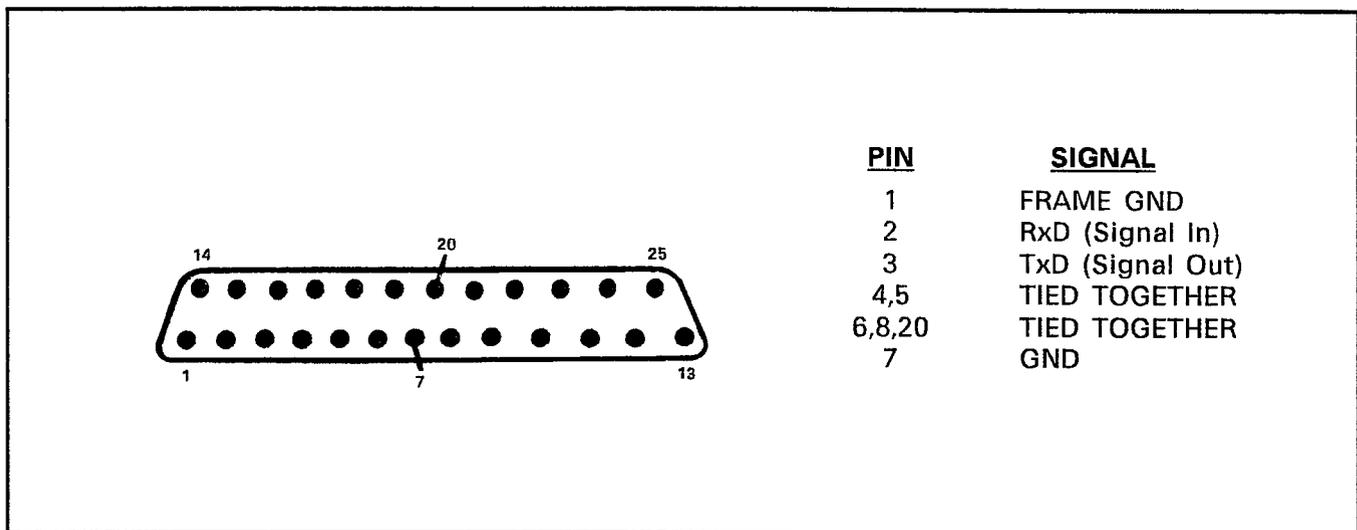

Figure 4-6, RS-232 Interface Connector (Viewed from outside Dialer)
4.13 The RS-232 Computer Port connector (refer to Figure 4-6) is a female connector configured as "DCE". Only the TxD (pin 3), the RxD (pin 2), and the GND (pin 1) lines are used by the Controller. Pins 4 through 6, 8, and 20 are shorted internally for the convenience of the user. This port is used for programming and call recording output.